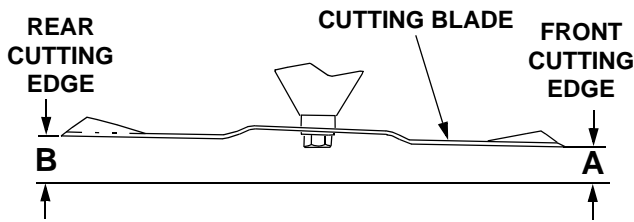

Figure 36
- Refer to Figure 36. Measure and record the distance from the front cutting edge to the ground (measurement A), and from the rear cutting edge to the ground (measurement B), for each of the blades. The front edge of each blade (measurement A) should be lower than its back edge (measurement B) by 1/8 to 1/4 inch.